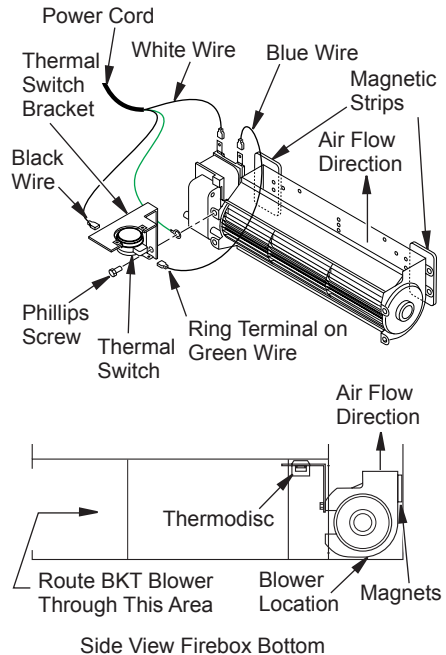

Figure 29 - Blower Model BKT
1. Place the green ground wire with ring terminal between the bottom hole on the thermal switch bracket and the top ear hole on the blower assembly. Insert the phillips screw into all three pieces and tighten securely (see Figure 29).
3. Place the blower against the lower rear wall of the firebox outer wrapper with the exhaust port directed upward and the thermodisc positioned up near the fireplace bottom. The thermodisc must be oriented near the fireplace bottom as shown in Figure 29 in order to sense temperature and properly operate. The blower will be held in position against the back wall by the magnets incorporated onto the blower housing (see Figure 29).